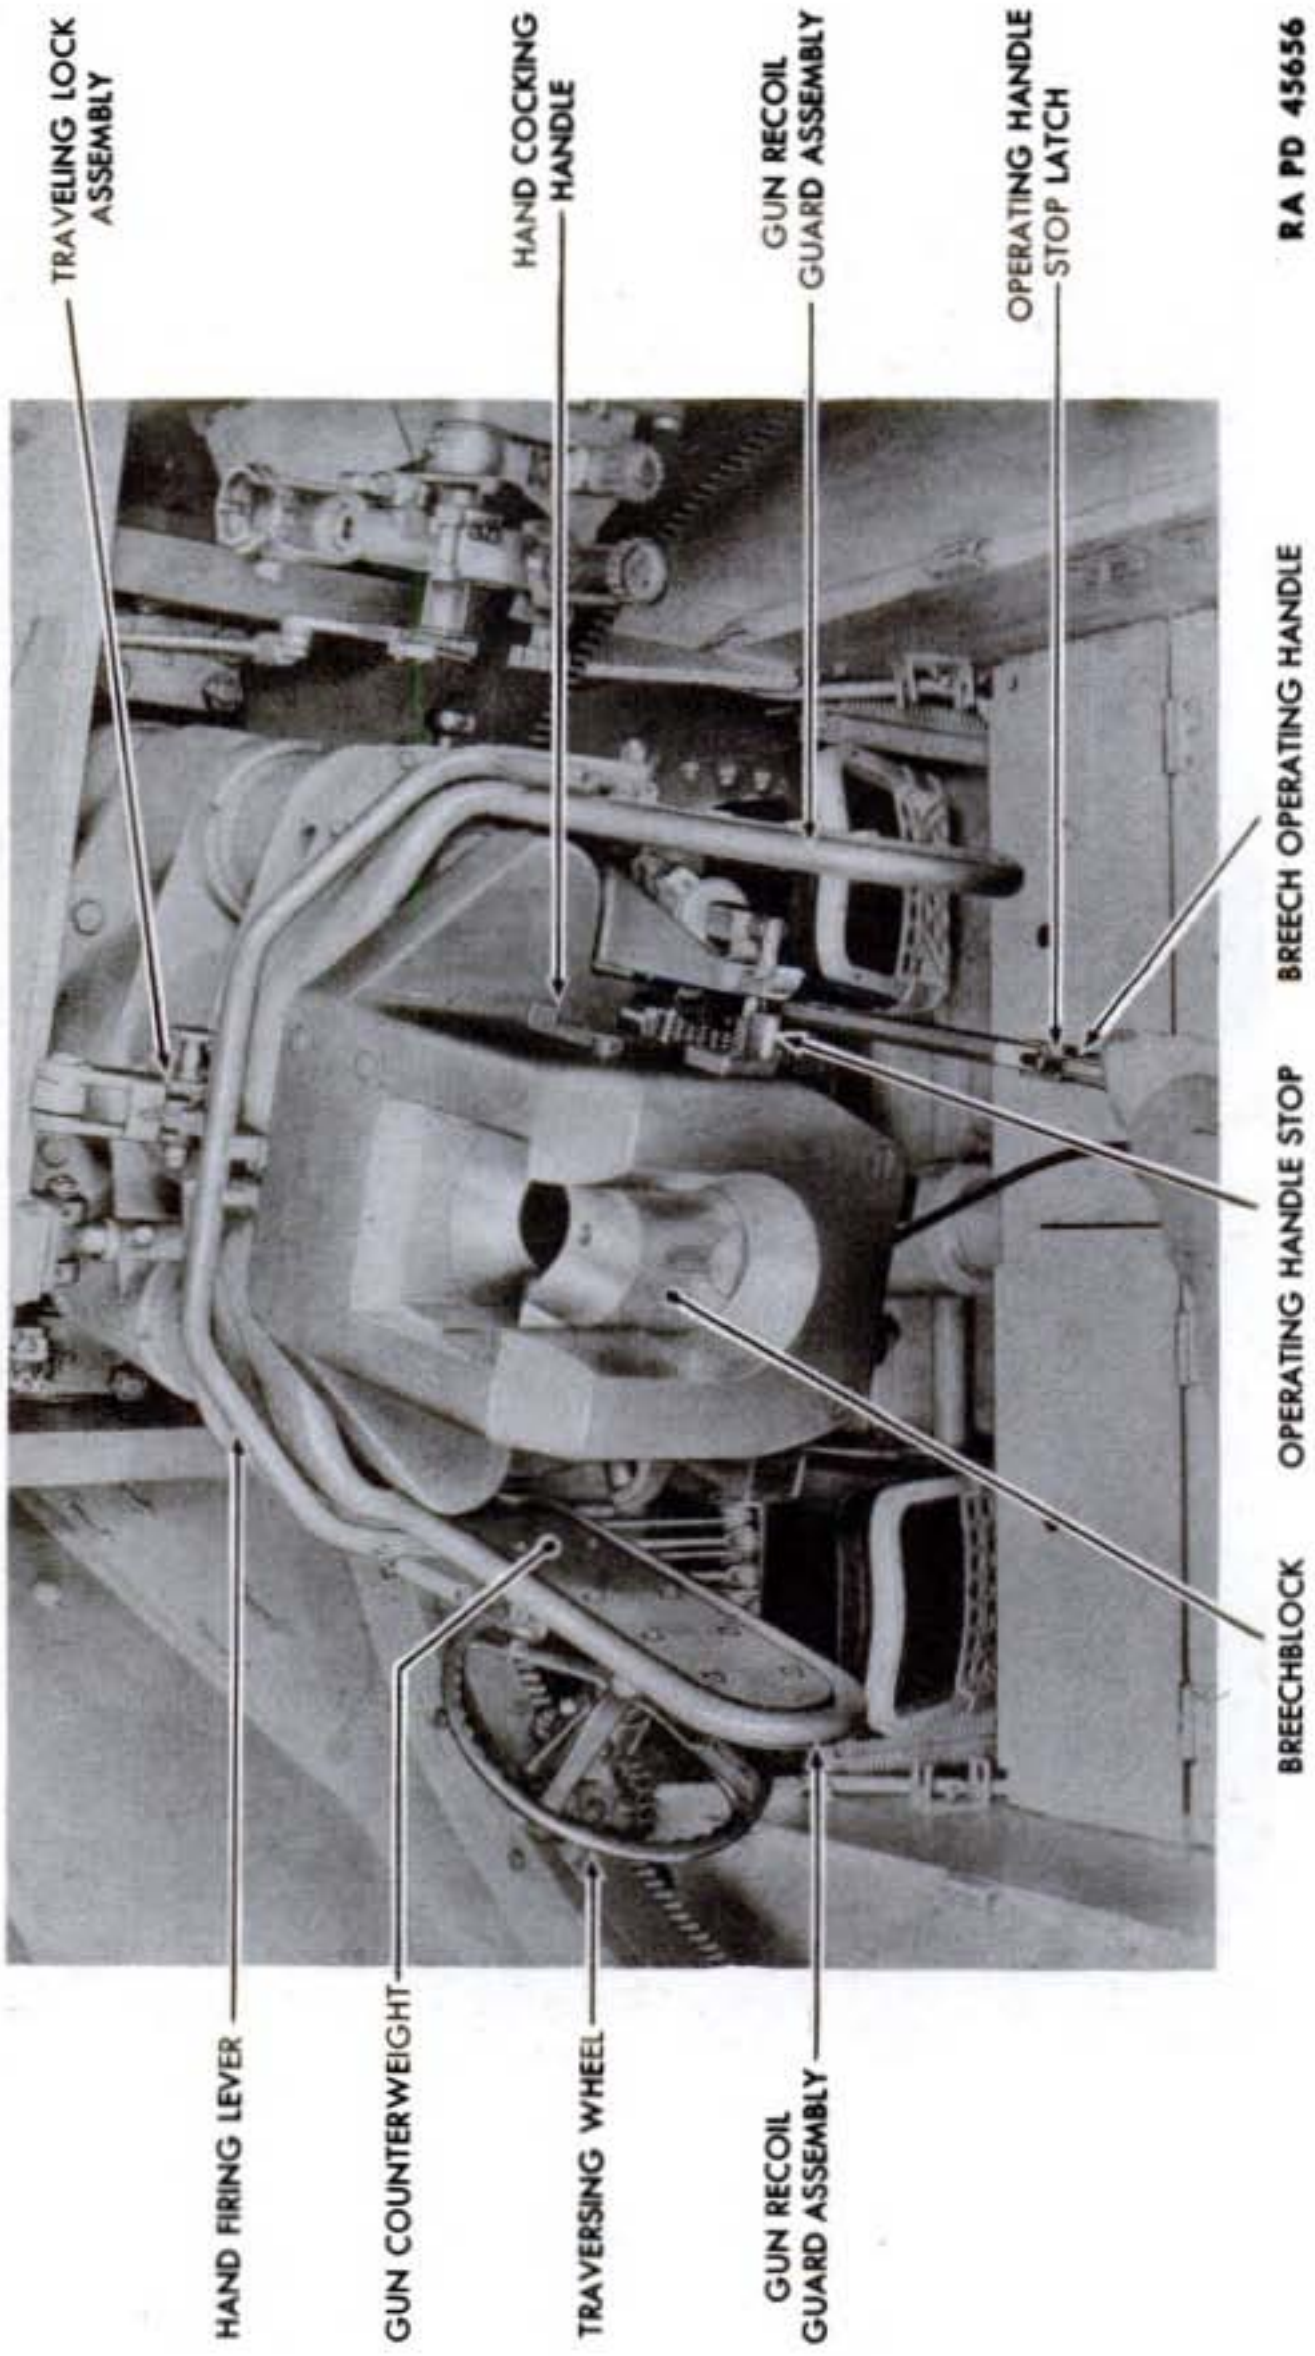

Figure 171—Manually Opening the Breech
c. Manual Opening of Breech (fig. 171).
(1) Unlatch breech operating handle from operating handle stop by grasping lever so that operating handle stop latch is lifted clear of the stop.